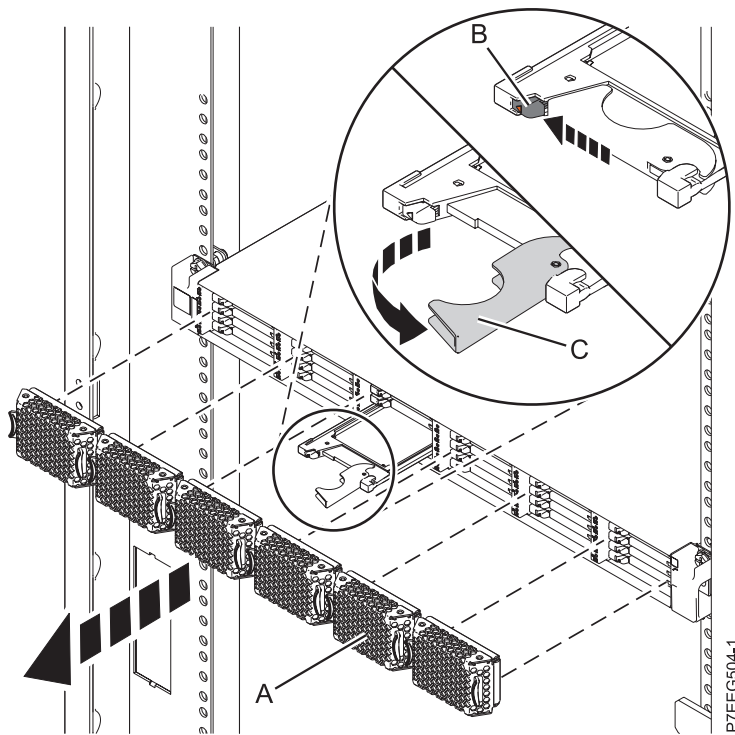

Figure 21. Removing the solid-state drive from the 5888 PCIe storage enclosure
4. Pull off the bezel (A) that covers the slot that contains the solid-state drive.
5. When the solid-state drive identify LED turns on solid, slide the release latch (B) over gently to unlock the drive handle. See Figure 21 on page 36.
6. Grasp the handle (C) and pull the drive partially out of the slot.